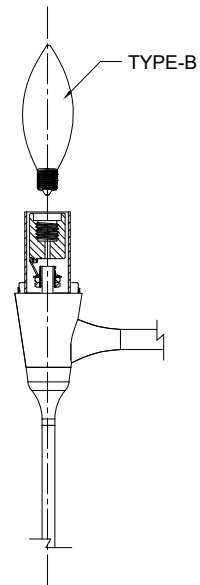

FIGURE-03
9. Place the lamp into the socket of the fixture. (See FIGURE-03)